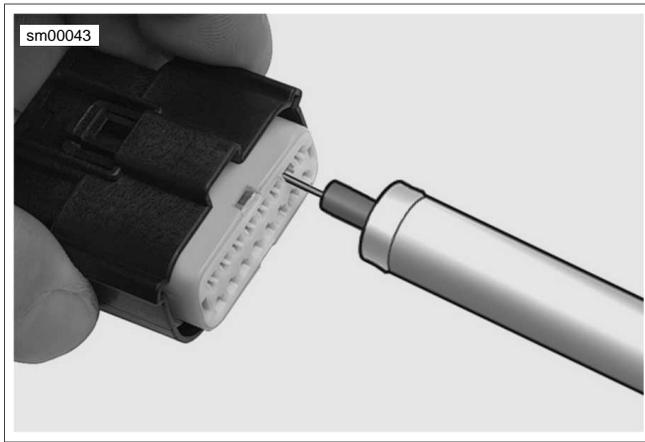

Figure A-30. Molex Connector: Terminal Remover (HD-48114)
2. See Figure A-30. Insert MOLEX ELECTRICAL CONNECTOR TERMINAL REMOVER (Part No. HD-48114) into the pin hole next to the terminal until the tool bottoms.